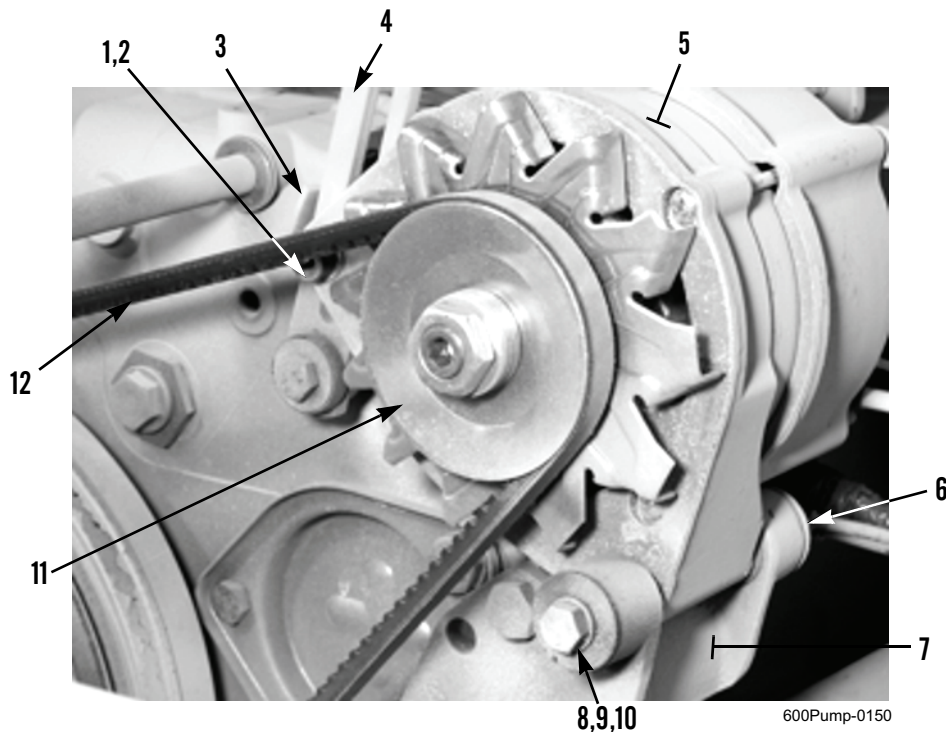

Figure 1. Alternator.
1. Remove capscrew (Figure 1, Item 1), washer (Figure 1, Item 2), and weldnut (Figure 1, Item 3) from alternator (Figure 1, Item 5) and adjustment bracket (Figure 1, Item 4).
2. Remove V-belt (Figure 1, Item 12) from pulley (Figure 1, Item 11).
3. Remove bolt (Figure 1, Item 8), washer (Figure 1, Item 9), damping bushing (Figure 1, Item 10), and nut (Figure 1, Item 6) from alternator (Figure 1, Item 5) and bracket (Figure 1, Item 7).
4. Remove alternator (Figure 1, Item 5) from bracket (Figure 1, Item 7).